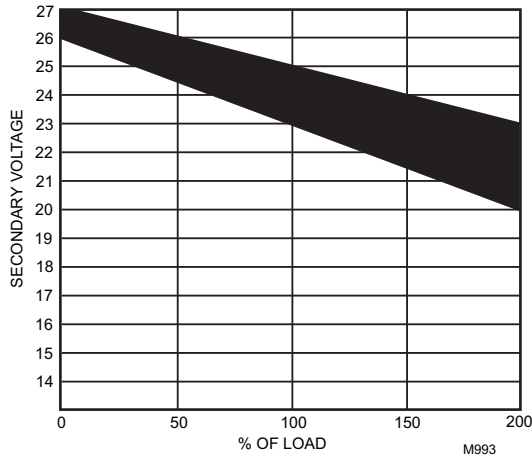

Fig. 8. NEMA Class 2 Transformer Voltage Output Limits.
This means that four volts are going to be lost between the transformer and the controller. To assure the controller receives at least 20 volts, the transformer must output more than 24 volts. Because all transformer output voltage levels depend on the size of the connected load, a larger transformer outputs a higher voltage than a smaller one for a given load. Fig. 8 on page 9 shows this voltage load dependence.
In the preceding I x R loss example, even though the controller load is only 37 VA, a standard 40 VA transformer is not sufficient due to the line-loss. Looking at Fig. 8 on page 9, a 40 VA transformer is just under 100 percent loaded (for the 37 VA controller) and has a secondary voltage of 22.9 volts. (Use the lower edge of the shaded zone in Fig. 8 that represents the worst case conditions.) When the I x R loss of four volts is subtracted, only 18.9 volts reaches the controller. This is not enough voltage for proper operation.
1. Use a larger transformer. For example, if an 80 VA model is used, an output of 24.4 volts, minus the four volt line-loss, supplies 20.4V to the controller. See Fig. 8 on page 9. Although acceptable, the four-volt line-loss in this example is higher than recommended.
To meet the National Electrical Manufacturers Association (NEMA) standards, a transformer must stay within the NEMA limits. The chart in Fig. 8 shows the required limits at various loads.